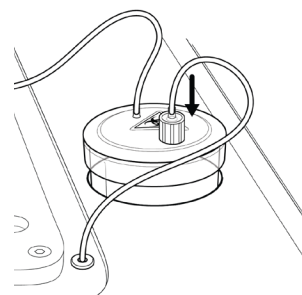

Fig. 31. Connect the vacuum tubing to the top of the waste jar.
- Connect the Genesis vacuum tubing to the top of the waste jar (Figure 31).